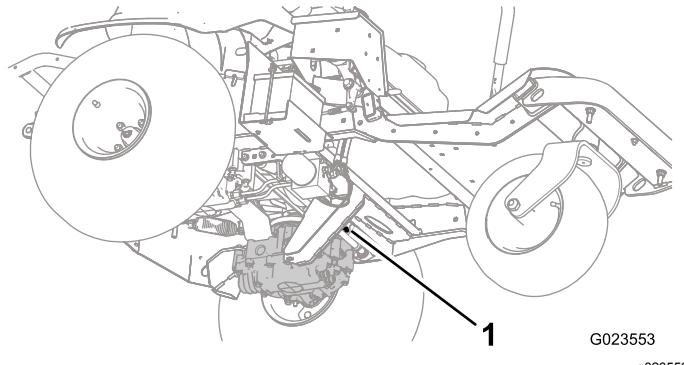
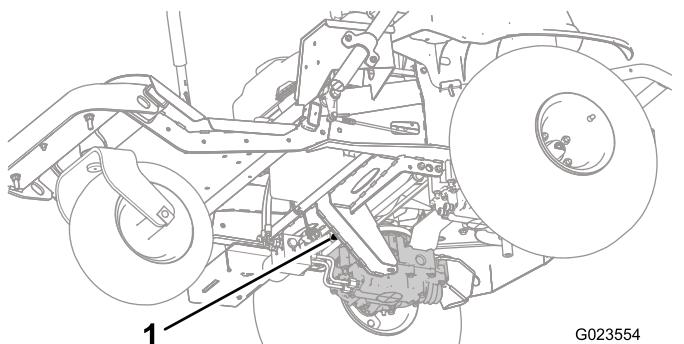
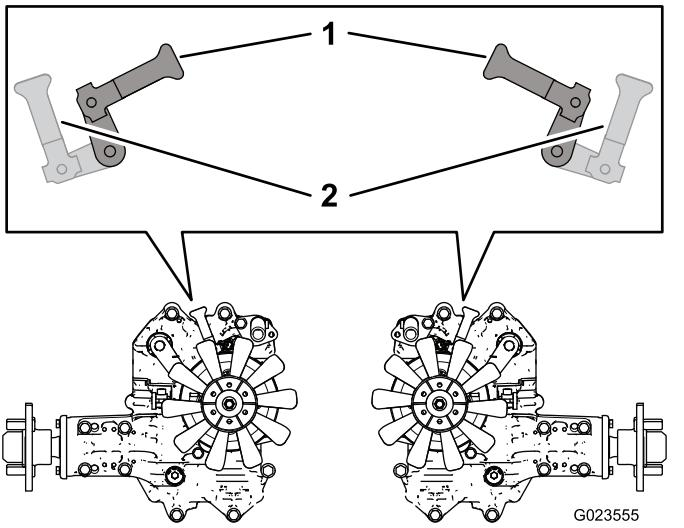

Figure 27
Figure 28
Figure 29
2. From underneath the machine, rotate the bypass-valve levers (Figure 27 and Figure 28) so that they point inward, toward the center of the machine (Figure 29), and disengage the parking brake; refer to Using the Parking Brake \(page 22\).
3. When you are finished pushing or towing the machine, rotate the bypass-valve levers so that they point toward the front of the machine, to allow the machine to drive (Figure 29).